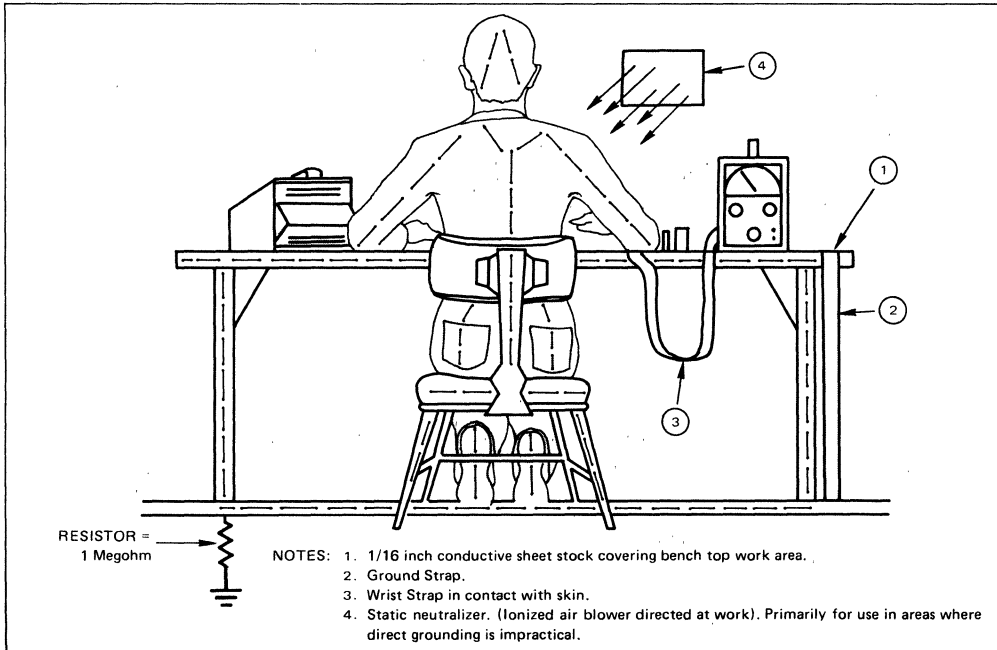

FIGURE 2 – TYPICAL MANUFACTURING WORK STATION
2. All CMOS devices should be placed on a grounded bench surface and operators should ground themselves prior to handling devices, since a worker can be statically charged with respect to the bench surface. Wrist straps in contact with skin are strongly recommended. See Figure 2.